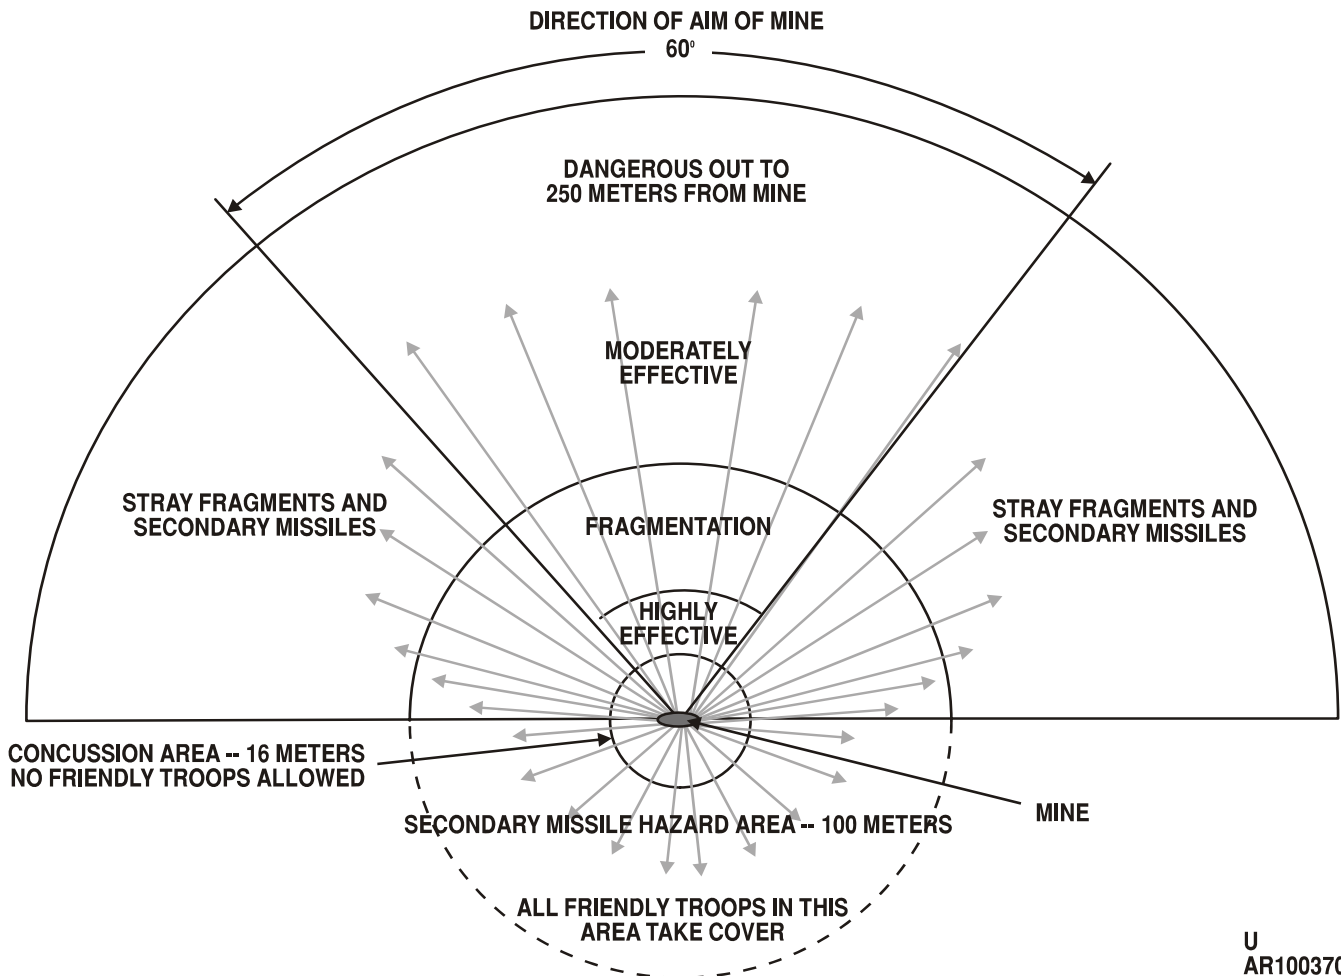
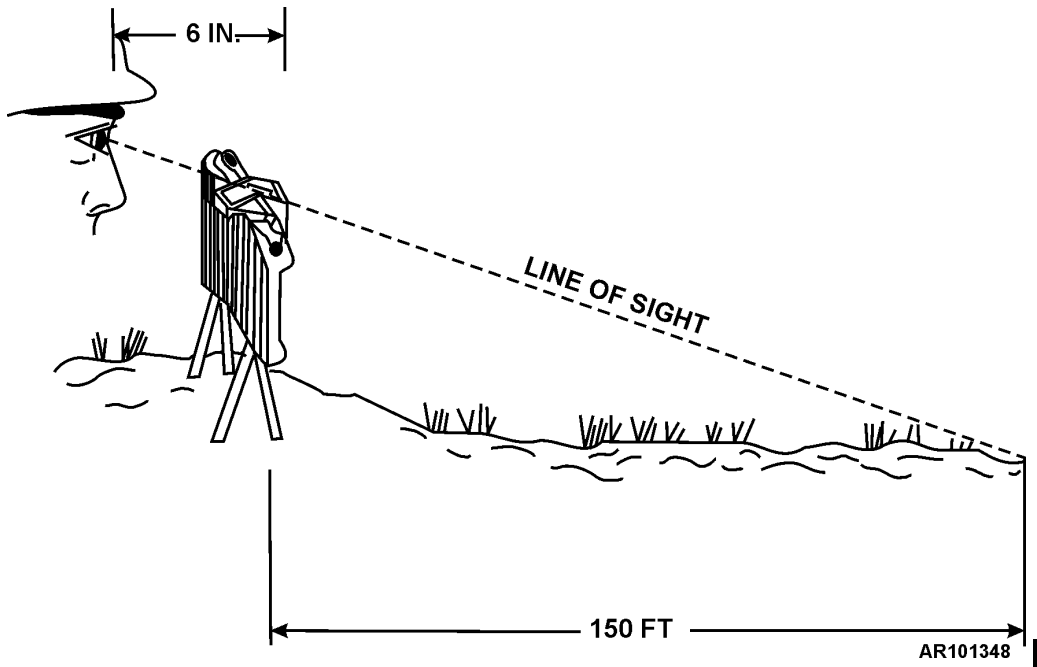

Figure 2-12.2. Casualty and danger areas of antipersonnel mine M18A1 with non-electric initiation system.
Figure 2-12.3. Aiming antipersonnel mine M18A1 with non-electric initiation system (equipped with knife-edge sight).
and 60-degrees wide at a range of 50 meters (fig. 2-12.2). These balls are effective up to a range of 100 meters and are dangerous up to 250 meters in front of the mine.
(2) *Backblast.* Within an area of 16 meters (figure 2-12.2) to the rear and sides of the mine, backblast can cause injury by concussion and secondary missiles. Up to 100 meters to rear and sides of mine, all friendly personnel must be under cover for protection from secondary missiles.
- (1) Remove mine and accessories from bandoleer. Read instruction sheet attached to flap of bandoleer.
**POSITION MINE SO THAT FRIENDLY TROOPS TO REAR AND SIDE OF MINE (FIG. 2-12.2) WILL NOT BE ENDANGERED. FIRING POSITION SHOULD BE AT LEAST 16 METERS TO REAR OR SIDES OF MINE.**
- (2) Turn legs downward and spread about 45-degrees. Twist legs so that one protrudes ahead of the mine; the other, behind mine. Position mine with surface marked FRONT TOWARD ENEMY and arrows on top of case pointing in direction of enemy or desired area of fire.
c. *Aiming of Mines with Knife-edge Sight (fig. 2-12.3).*
- (1) Select a point approximately 50 meters in front of the mine at ground level.
- (2) Position eye approximately 6 inches to the rear of the sight. Aim mine by aligning two edges of sight with aiming point.